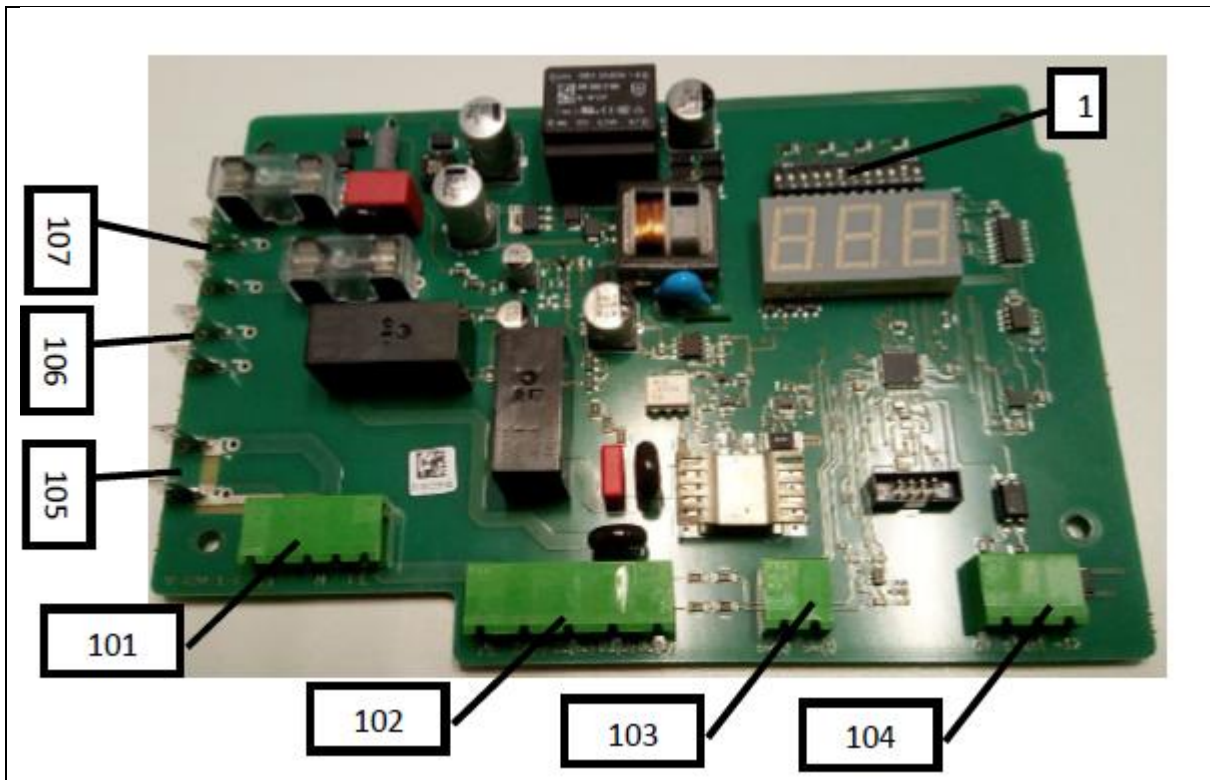

Fig. 10: PCB
The resistance threshold (= switch-off resistance) can be adjusted using the black dip switch element (item 1, Fig. 10) on the control card. When carrying out this change, a qualified electrician should always be consulted who can ensure the safe opening of the control box.